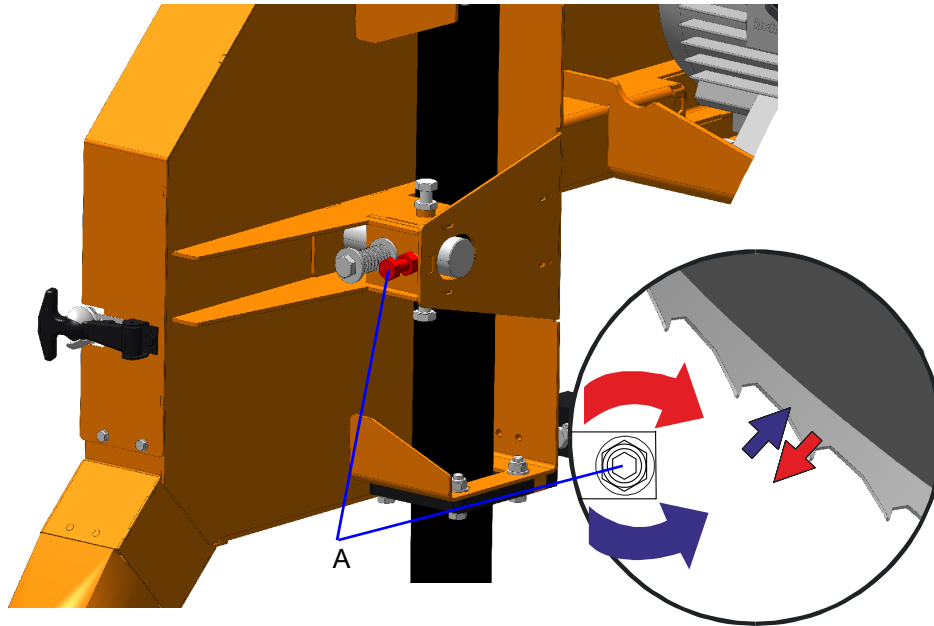

FIG. 3-5
**See figure 3-5.** Use the adjustment screw (A) shown below to adjust the drive-side blade wheel horizontally. First, loosen the nut on this screw. If you want to move the blade on the wheel away from the machine, loosen the screw. To move the blade towards the machine, tighten the screw. Be sure to tighten the nut after adjustment.